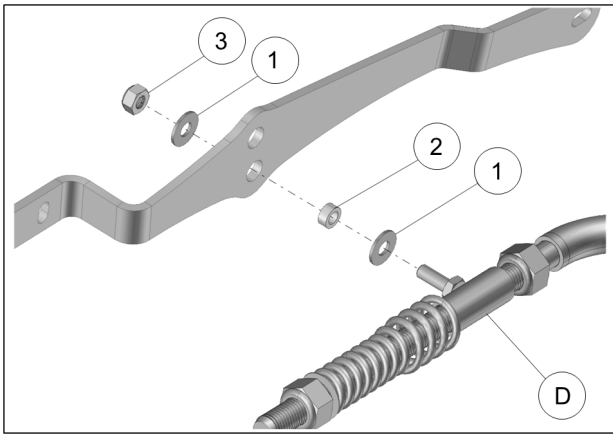

Fig. 8
- Attach the rear stabilizing rod (D) to the undercarriage bracket using washers (1), a bushing (2) and a nut (3). Choose the hole that does not create interference between the nylon lock nut (3) and the plastic drive wheel. Refer to Fig. 8